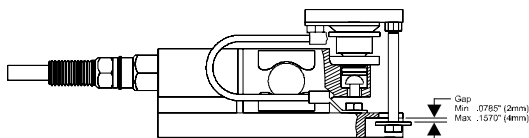

FIG. 13: ANTI-LIFT OFF DEVICE ADJUSTMENT
- Step 1. Use a box end wrench to loosen the adjustment hex nut that fastens the Anti-Lift Off Device to the top plate. (See Fig. 13)
- Step 2. Use a box end wrench or your fingers to adjust the hex screw until the gap between the base plate and the washer are between .0785" (2mm) and .1570" (4mm). (See Fig. 13)